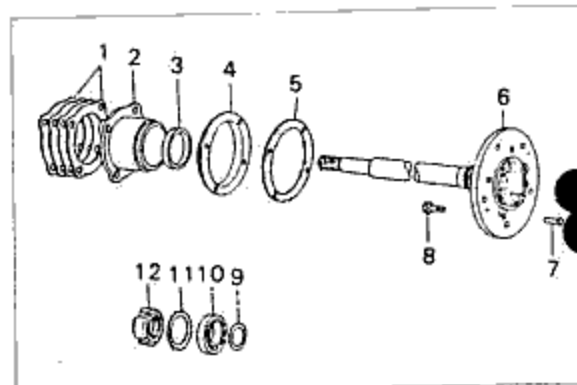

Fig. 9-31
4. Disassemble the bearing housing assembly as shown in the figure 9-31.